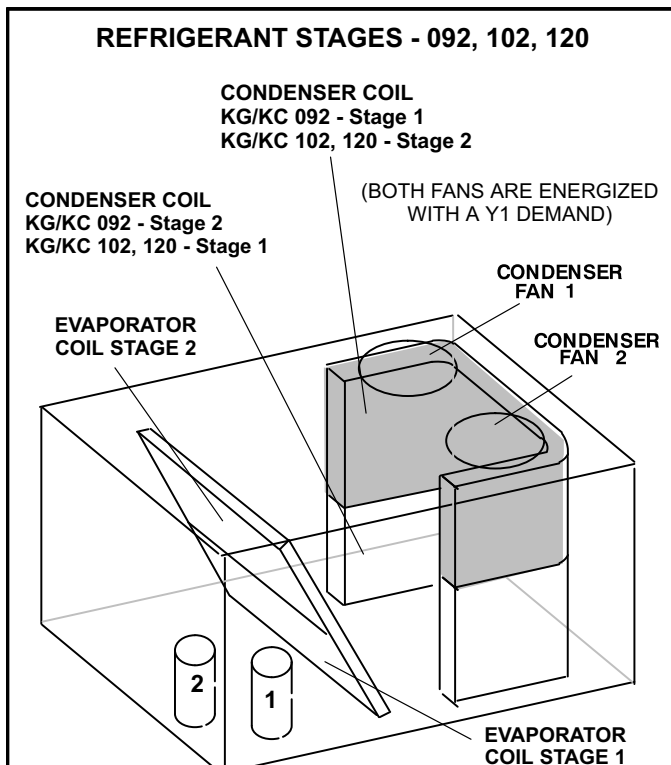

FIGURE 23
- 3- Units contain two refrigerant circuits or stages. See figure 23 or 24.